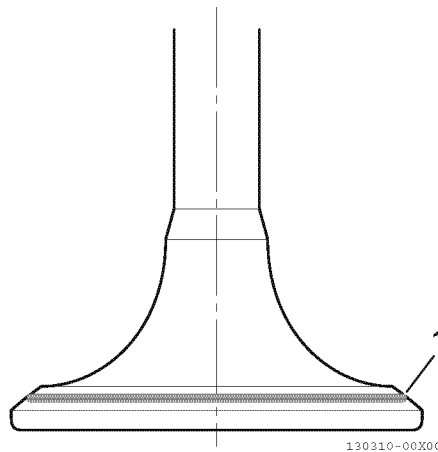

Fig. 14-37
4. Coat the valve seat with a thin coat of bluing compound. Install the valve and rotate it so that the bluing compound is spread to all parts of the valve contact surface. The contact pattern should be approximately centered on the valve face (1, Fig.14-37) and should be even in width.